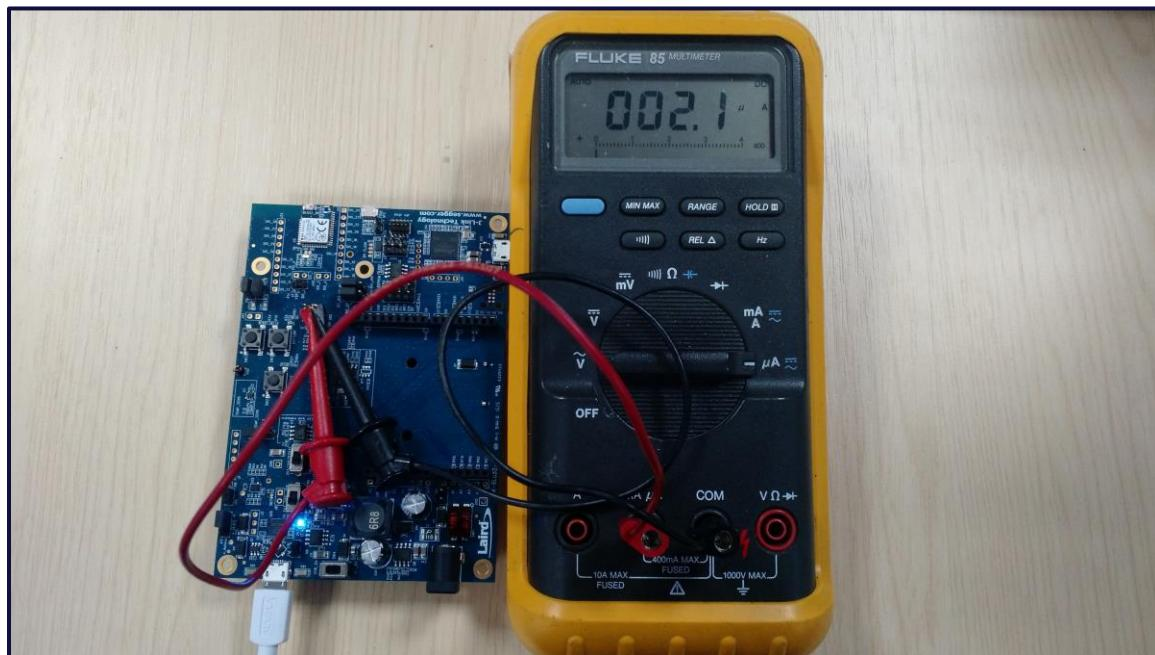

Figure 8: The current falls to about 2.1uA when placed in standby doze mode
6. Through the current measuring DMM, the current should fall to about 2.1uA (Figure 8).